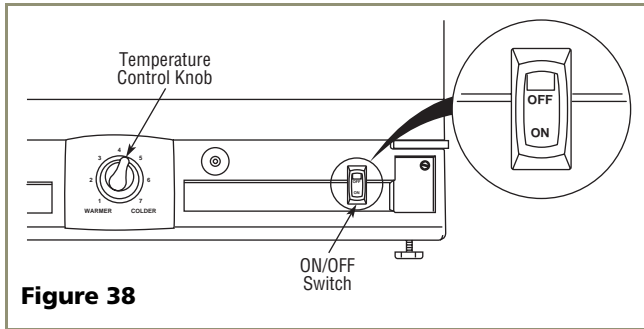

Figure 38
2. Make sure the cycle selector switch is in the OFF (middle) position (see **Figure 38**).
Once installation and leveling is complete, the unit is ready for initial start-up and operation. The ON/OFF switch is located in the front grille (see **Figure 38**).